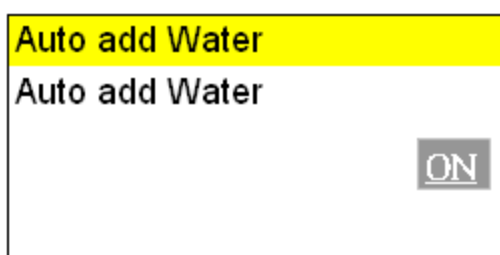

Figure 132
- C. Press  or  button to enable or disable the Auto add water, and press  button to store the parameter in Figure 132.